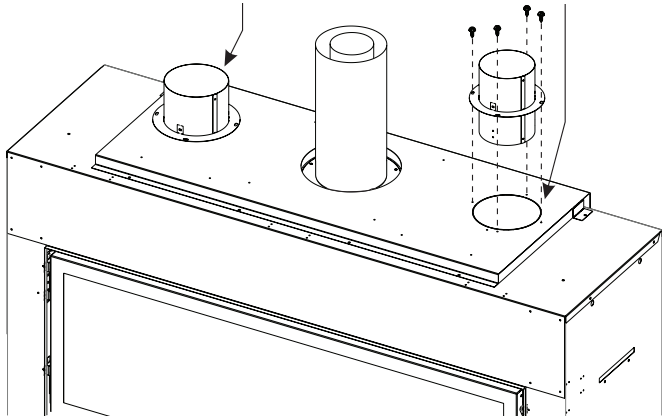

Figure 10
See Figure 10.
- Install the starter collar assemblies (from step# 7) to the fireplace. Insert the collars into the vent holes on top of the fireplace making sure the bottom of the collars are touching the inner heat shield, then install (4) # 10 X 1/2" screws to secure each collar assembly. **See figure 10.**